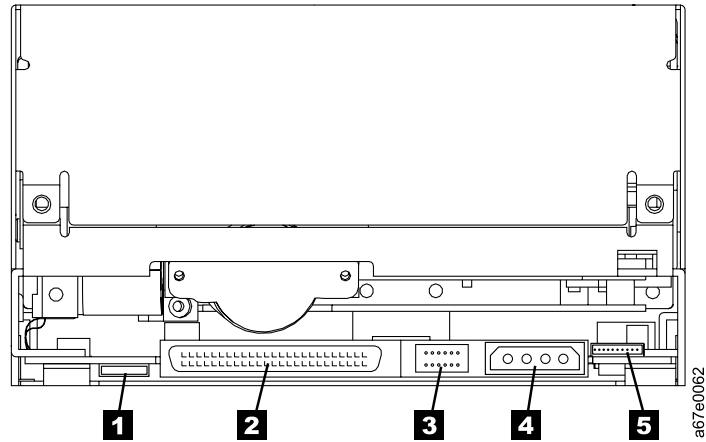

Figure 2. Rear view of the IBM TotalStorage LTO Ultrium 2 Tape Drive Model T400 (SCSI drive)
You can set the SCSI ID on the Ultrium 2 Tape Drive by installing 2-mm jumpers on the drive's SCSI ID connector (see **3** in Figure 2 on page 14). Your tape drive may come set to a default SCSI configuration, with jumpers already installed. To change the default SCSI configuration, contact your sales or technical support representative. You can change the SCSI ID by rearranging, adding, or removing jumpers.
- ___ 1. Locate the SCSI ID connector (see **3** in Figure 2 on page 14).
If your enclosure uses a SCSI ID switch (rather than jumpers), connect the switch to the drive's SCSI ID connector (see **3** in Figure 2 on page 14). If any jumpers are pre-installed, be sure to remove them before connecting the switch. The SCSI ID switch must be compatible with the drive's SCSI ID connector and must make an electrical connection between the same pins as the jumpers to achieve the same corresponding SCSI ID.